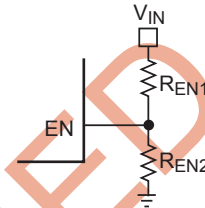

**Figure 2—Enable Divider Circuit**
2) Enabled by Vin through voltage divider. Connect EN with Vin through a resistive voltage divider for automatic startup as the figure 2 shows.